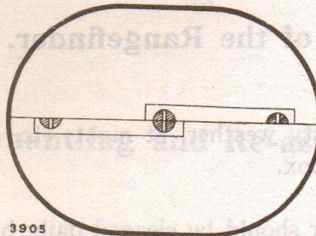

Fig. 7.
4. Bring the mark at the *one end* of the adjuster, appearing in the one field, into coincidence with the mark at the *other end*, appearing in the other field, as indicated in Fig. 7.